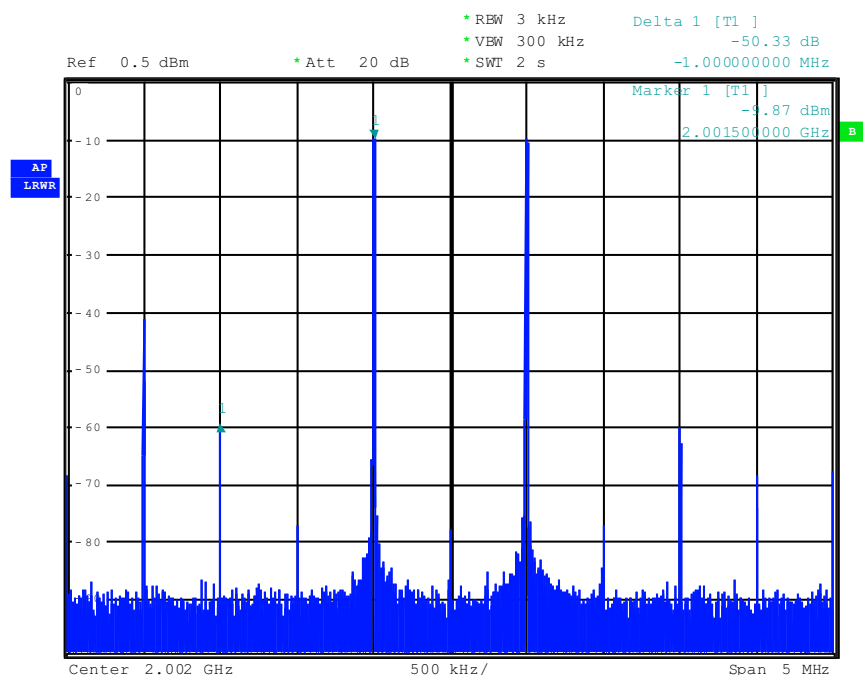
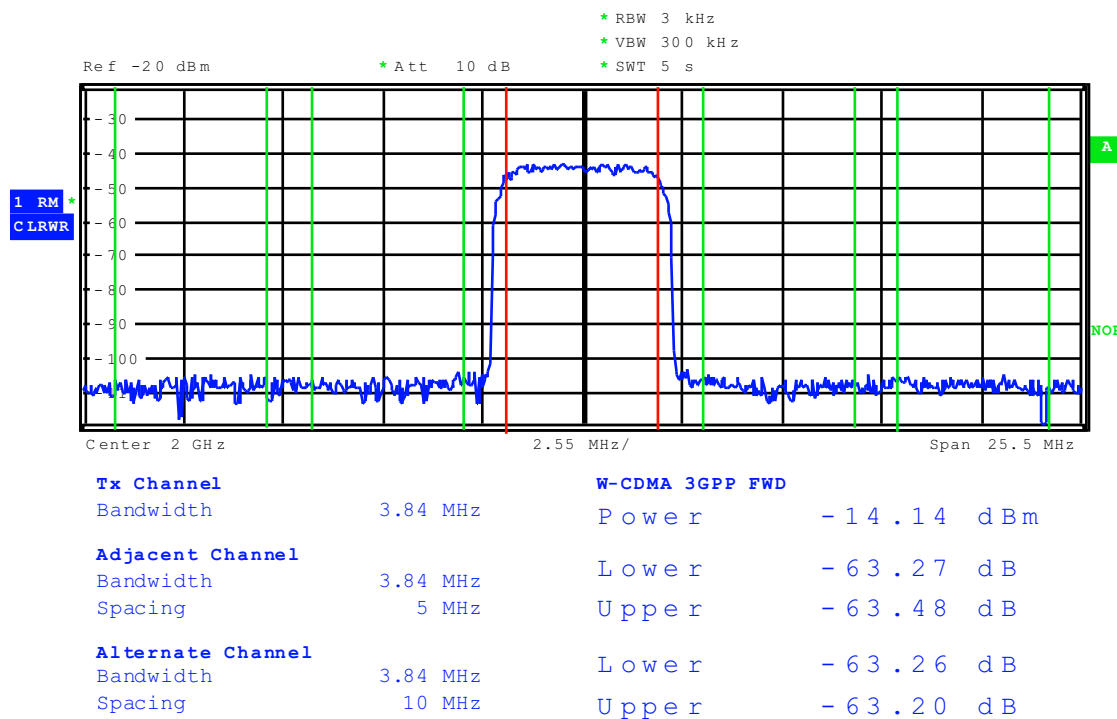

Figure 8. Two-Tone IMD Performance: LO = 2 GHz, DAC Rate = 65 MSPS, IF = 1.5 MHz and 2.5 MHz
Figure 9. WCDMA ACPR: LO = 2 GHz, DAC Rate = 57.6 MHz, 0-MHz Offset
- Monitor the output signal at the RF output connector. If the LO input frequency is set to 2 GHz and the digital inputs are configured to be tones at 1.5 MHz and 2.5 MHz, the RF output looks like two tones placed at 2001.5 MHz and 2002.5 MHz as seen in Figure 8.
Figure 8 and Figure 9 shows the typical two-tone and ACPR performance of the AFE7070 EVM from the preceding setup.